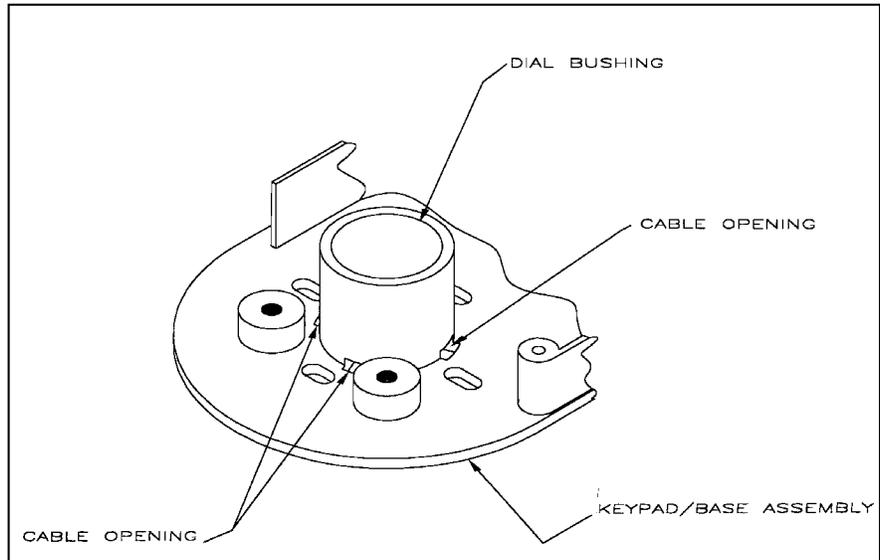
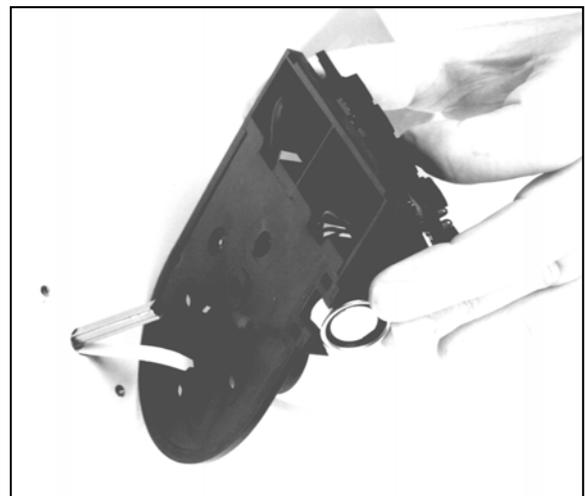

Fig. 7 - Base assembly dial bushing
Fig. 8 - Guide flex cable through cable receiving hole
16. Hold the base assembly in the upright position (i.e., the keypad is positioned at the top) and hold the base in place. There are four available cable receiving holes on the base assembly (Figure 7). Guide the flex cable through the appropriate cable receiving hole on the back of the base assembly based on the orientation of the flex cable to the spindle. For example, if the flex cable comes out below the spindle, the cable should be guided through the bottom cable receiving hole (Figure 8).
18. One end of the grounding wire is attached to the generator. The terminal on the other end of the wire will be attached to the base assembly using one of the two base assembly mounting screws. While holding the base assembly in place, attach it to the container door using the two base assembly mounting screws. (Make sure that you also attach the grounding wire at this time). Use either the two horizontal mounting holes or the two vertical holes, depending on the orientation in which you are mounting the lock. Visually center the dial bushing (Figure 7) on the base assembly with the center of the spindle hole and tighten the screws.